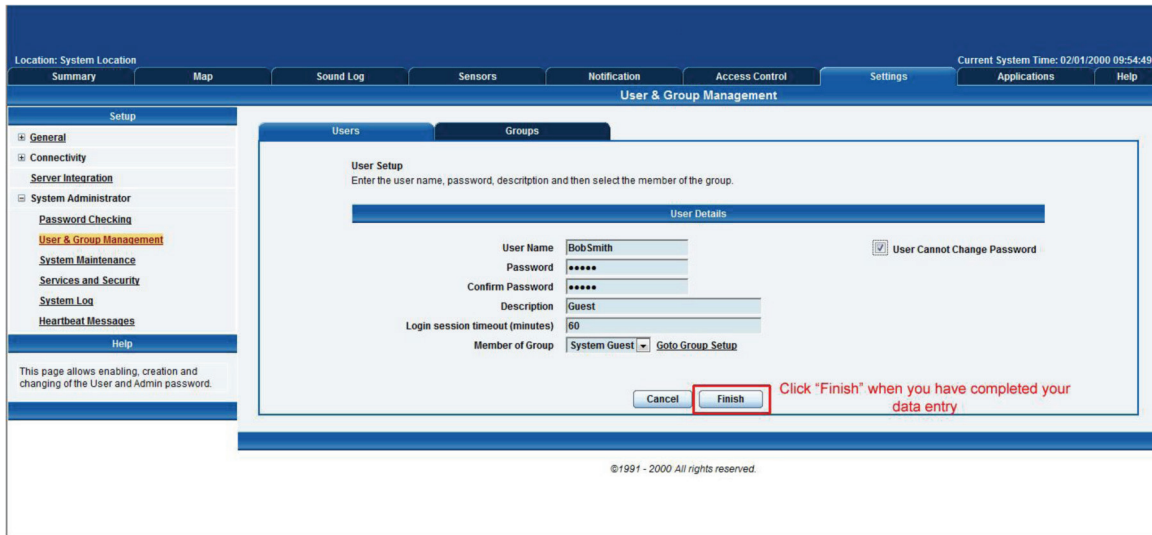

Figure 3-19. Enter user details.
2. Enter your user details as shown in Figure 3-19. In our example, we have entered Bob Smith as your Guest into our "System Guest" group. We have also added the option so that this user cannot change his login password. After adding your users for each group, click the "Finish" button to save each user.